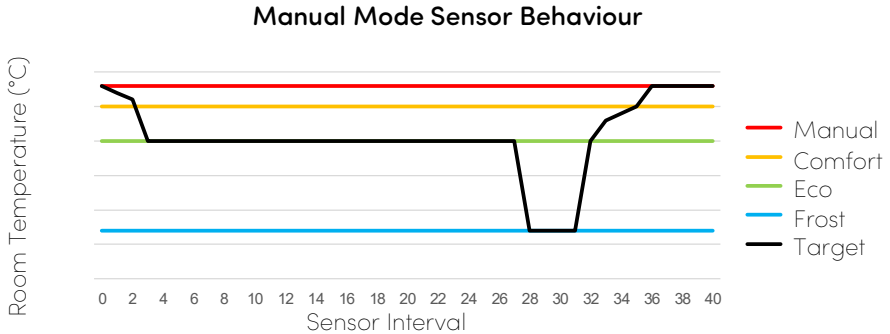

Figure 7 | Sensor changes to target temperature while in manual mode
- If no presence is detected during the sensor interval, the target temperature is reduced according to the graph in **Figure 7**.